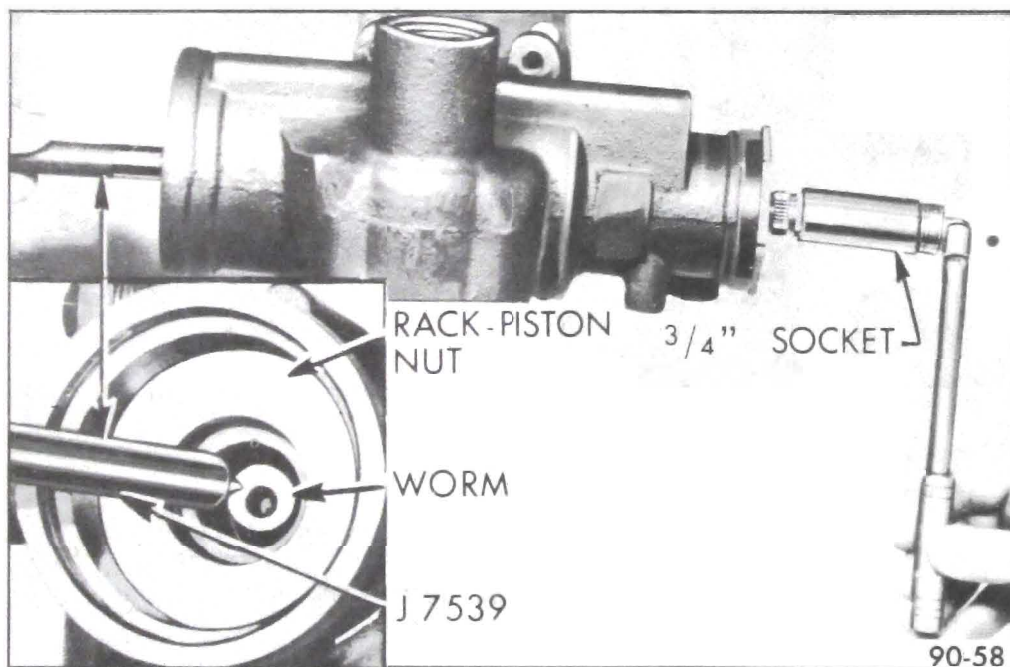

Figure 90-69 Removing Rack-Piston Nut
7. Insert ball retaining tool J-7539 in end of worm. See Figure 90-69. Turn stub shaft so that rack-piston nut will go onto the tool and remove rack-piston nut from gear housing. Keep ball retaining tool completely through rack-piston nut to prevent